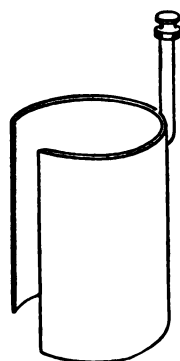

Fig. 10
Another form of Le Clanche cell is shown in Fig. 10. In this form the porous cup is replaced by a hollow carbon cylinder (B) filled with manganese dioxide. A heavy sheet-zinc cylinder is placed around the carbon, and the usual sal-ammoniac solution added.